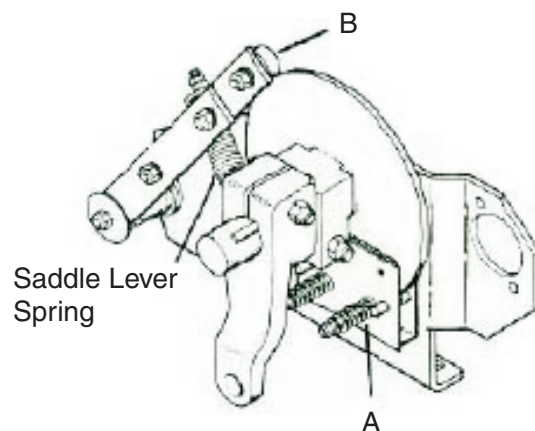

Figure 106. Saddle Lever Spring
Adjust the brake shoe tension springs so that the springs are fully depressed, (A) (see Figure 106).
The saddle spring is properly adjusted when roller (B) is in the notch and there is 1/2" of adjusted tension on the saddle lever spring (see Figure 106).